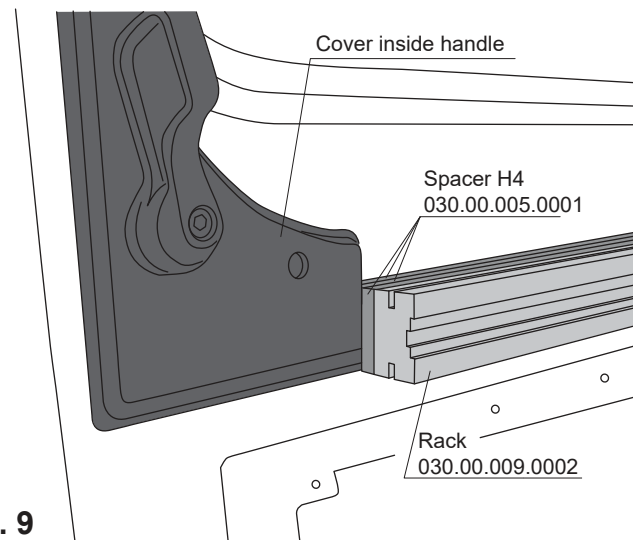

Fig. 9
1. 1090 mm (up to the cover of the inside handle, Fig. 9 and 10)
The lower edge of the rack should be in line with the lower edge of the inside handle, see Fig. 9.